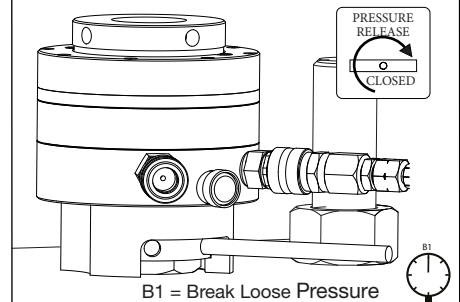

FIGURE 16, DETERMINING THE “BREAK LOOSE” PRESSURE
- If no leaks are found, continue operating the pump. Slowly raise the pressure until the “break loose” hydraulic pressure value is reached. This is the pressure at which a nut on one of the tensioners just begins to loosen and can be turned by hand with the tommy bar. Record this pressure for reference. See Figure 16.